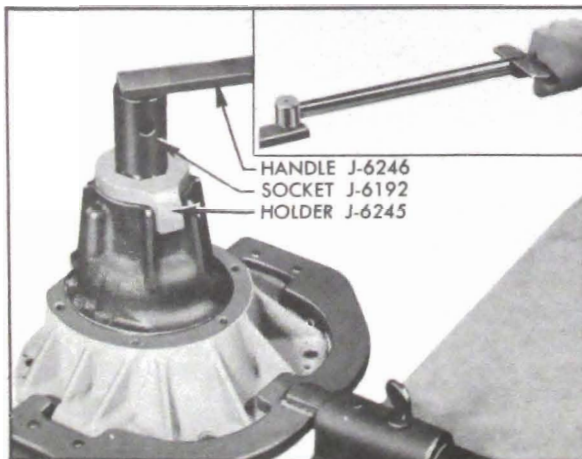
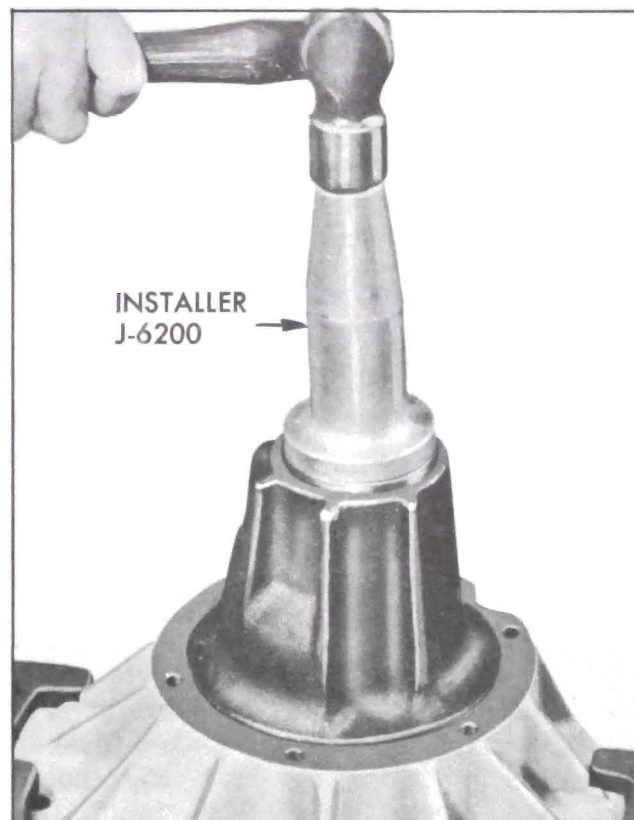

Figure 6-23—Tightening Pinion Nut
Figure 6-29—Installing Pinion Seal
4. For a starting pinion bearing pre-load adjustment, use a pair of spacers with a nominal thickness of .435". Place these spacers on pinion and hold pinion assembly in position in carrier. Install front pinion bearing and pinion nut. Hold nut to carrier with Holder J-6245 and turn pinion counterclockwise into nut, using Socket J-6192 and Handle J-6246. *Do not install pinion seal at this time.* Torque pinion nut to 80 foot pounds using Torque Wrench J-1313B on outer end of Handle J-6246. See figure 6-23.
6. Lubricate new pinion seal with axle lubricant and install with lip toward bearing, using Installer J-6200. See Figure 6-29. Reinstall pinion and bearings carefully in carrier with new thickness pre-load spacers. Install pinion nut and tighten to 80 foot pounds using Torque Wrench J-1313B in outer end of Handle J-6246 as shown in figure 6-23.